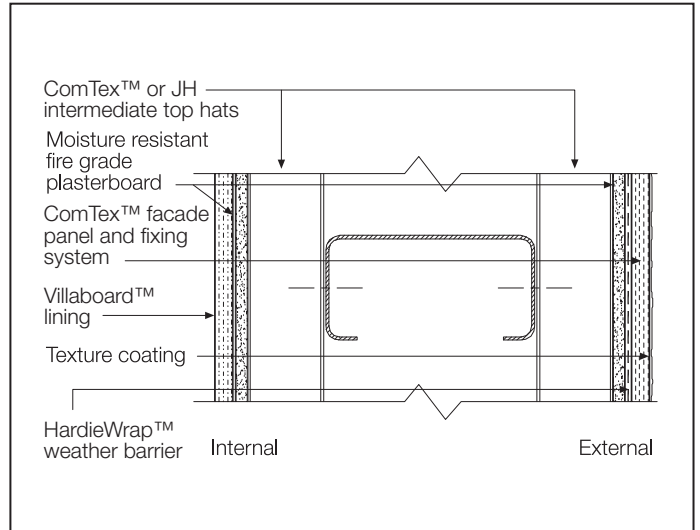

FIGURE 25 FIRE RATED COMTEX™ FACADE PANEL AND FIXING SYSTEM
2. Provide a drip edge at least 30mm out from the facade face. (see Figure 25 and 43).